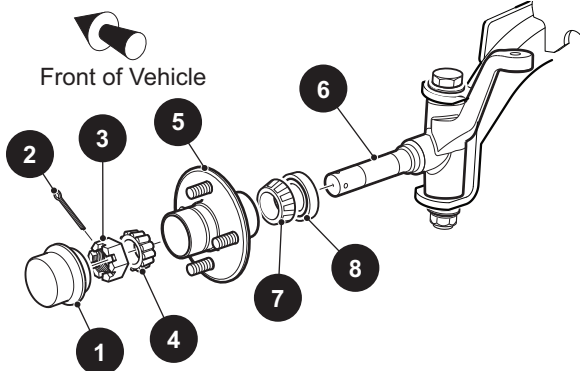

Figure 8 Hub Replacement
- Remove the dust cap (1), cotter pin (2) and castellated nut (3) (Figure 8). While holding the outer wheel bearing (4) in place, slide the hub (5) from the spindle (6) and discard (Figure 8).